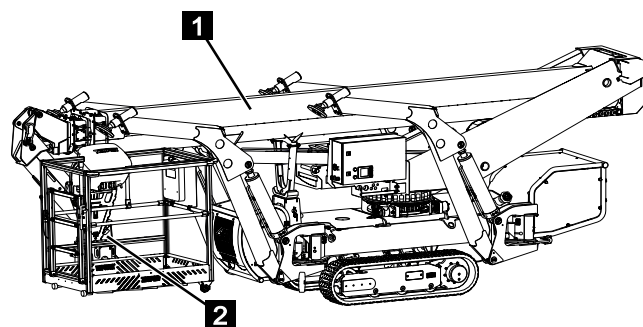

Fig. 147
- Outriggers 1 and 4 (Fig.147/1) are in transport position 1.
- Outriggers 2 and 3 (Fig.147/2) are in transport position 1.